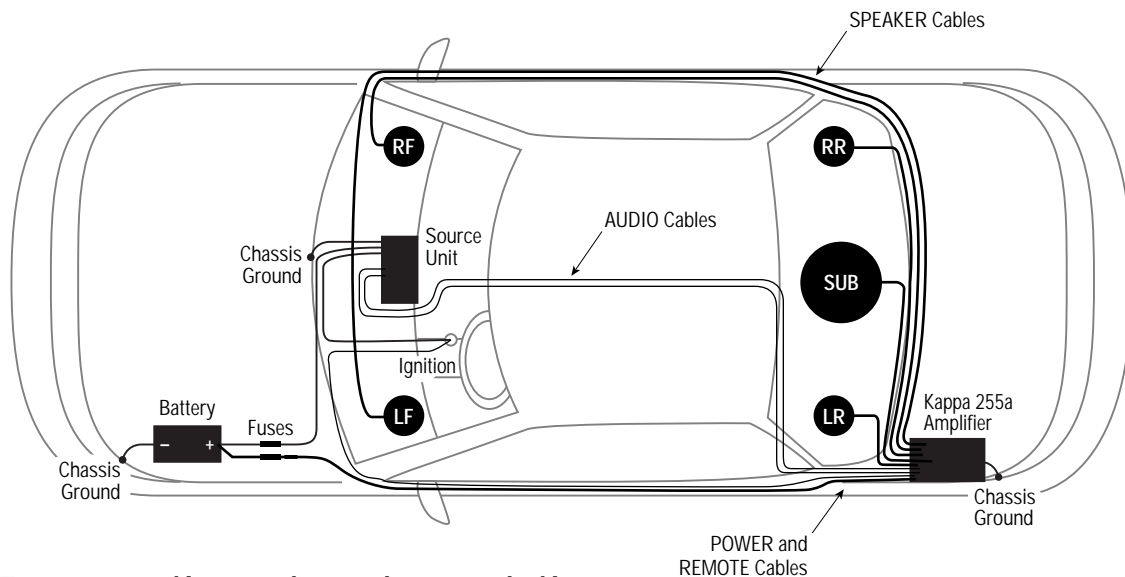

Figure 5. To minimize possible noise pickup, use this suggested cable routing scheme to plan your amplifier installation.
- When routing cables, keep input signal cables away from power cables and output speaker wires, as shown in Figure 5 (below).